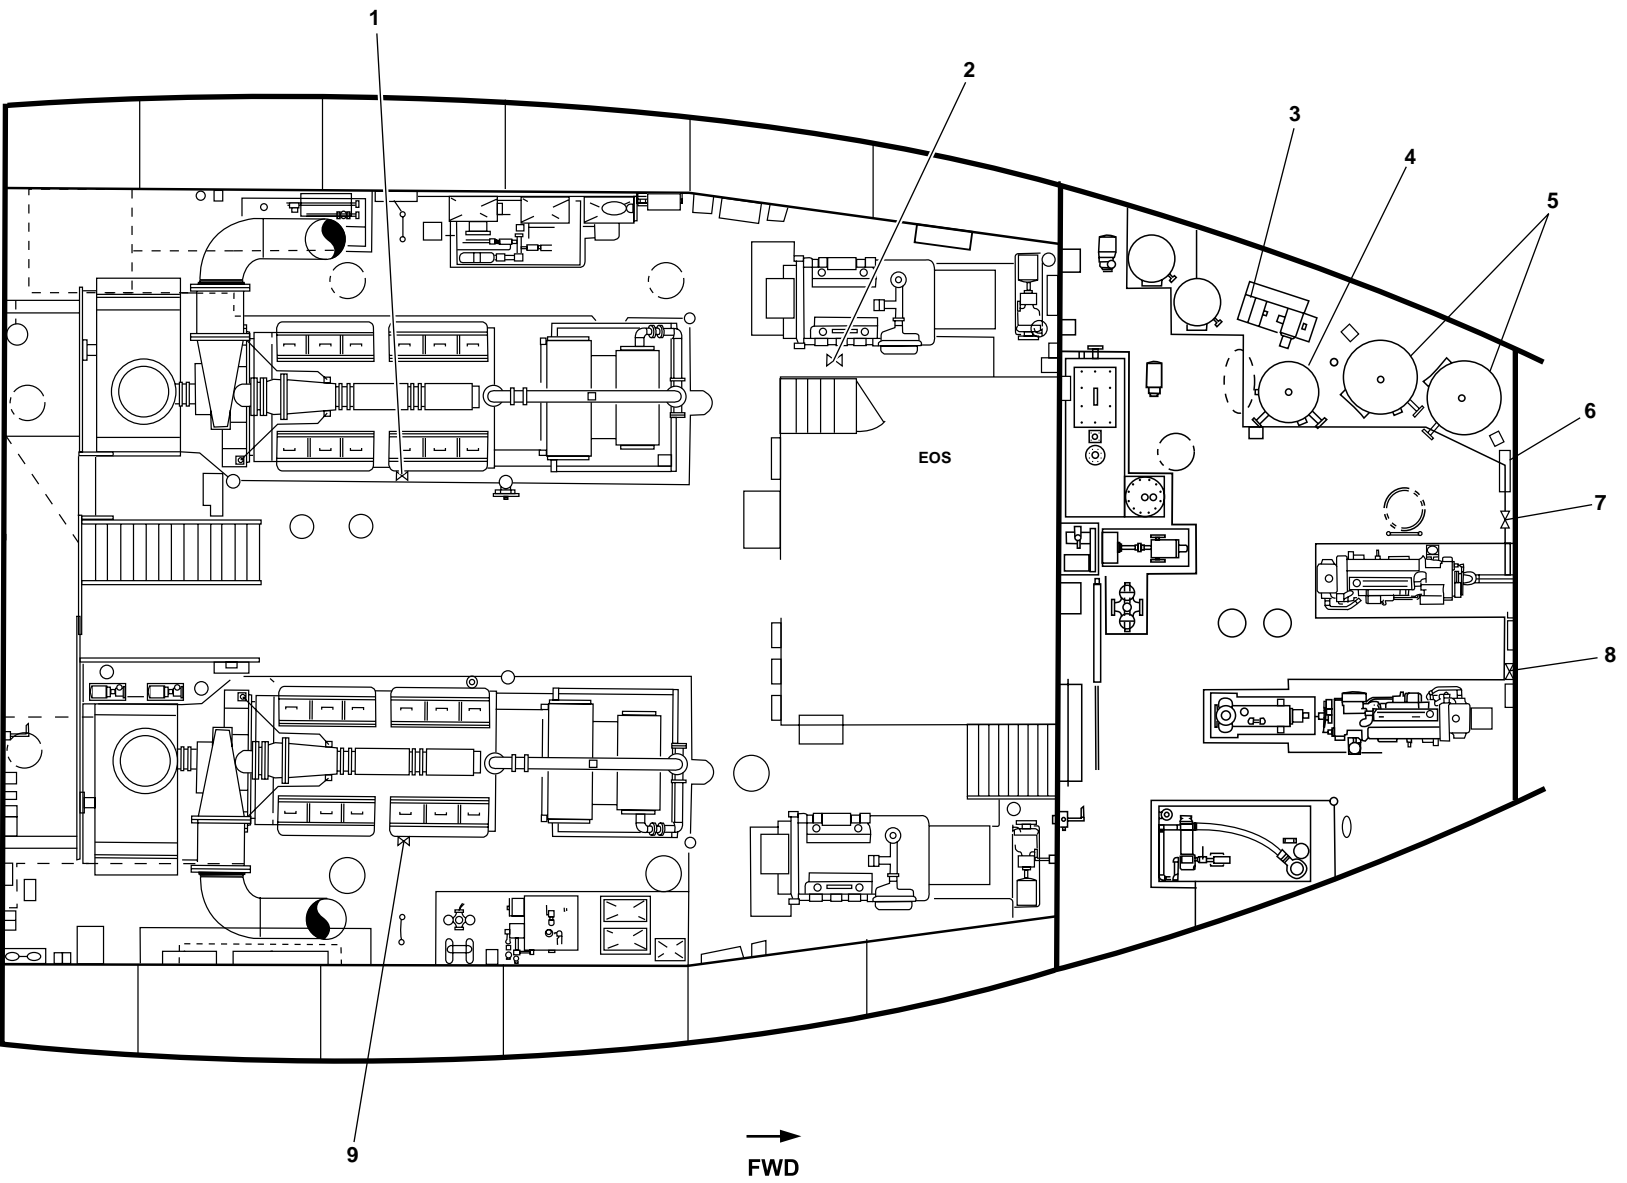

Figure 1. Major System Components
1. Port Main Engine Starting Air Regulator (figure 1, item 1). The regulator reduces the pressure of the starting air entering the port main engine's starting motor.
2. SSDG 2 Starting Air Regulator (figure 1, item 2). The regulator reduces the pressure of the starting air entering the SSDG 2 starting motor.
3. Air Compressors (figure 1, item 3). The compressors supply all of the compressed air for use onboard the LT.
4. Ship's Service Air Receiver (figure 1, item 4). This receiver stores all of the air for the ship's service air system, ensuring that an ample reserve of compressed air is available for the vessel's use.
5. Starting Air Receivers (figure 1, item 5). These two receivers store all of the compressed air for the starting air system. Air from these receivers is supplied to the starting systems of the main engines, SSDG 2, the bow thruster engine, and the pump drive engine.
6. Ship's Service Air Regulator and Bypass Manifold (figure 1, item 6). The regulator controls the pressure of air entering the ship's service receiver from the starting air receivers. The bypass manifold permits bypassing of the regulator in the event of regulator failure.
7. Bow Thruster Engine Starting Air Regulator (figure 1, item 7). The regulator reduces the pressure of the starting air entering the bow thruster engine starting motor.
8. Pump Drive Engine Starting Air Regulator (figure 1, item 8). The regulator reduces the pressure of the starting air entering the pump drive engine starting motor.
9. Starboard Main Engine Starting Air Regulator (figure 1, item 9). The regulator reduces the pressure of the starting air entering the starboard main engine's starting motor.